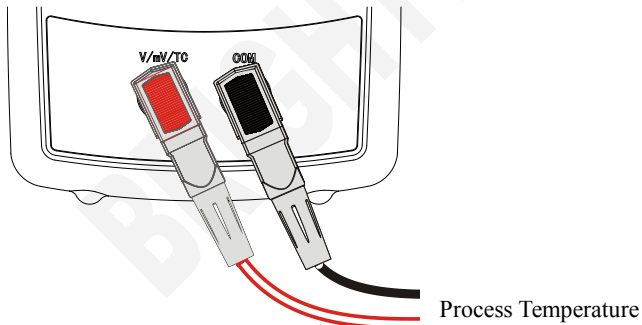

Figure 4-1
1. Connect the thermocouple to the calibrator as shown in Figure 4-1: